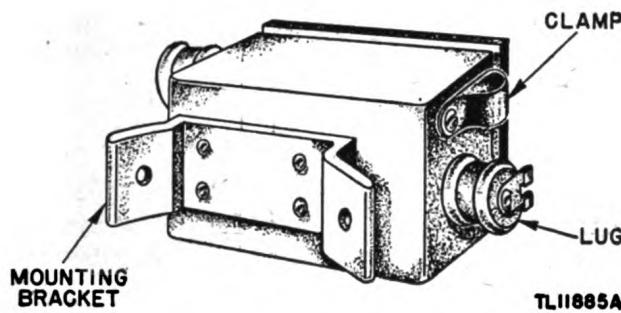

Figure 15. Terminal Box TM-211.
b. TERMINAL BOX TM-211. Terminal Box TM-211 (fig. 15) is 2 inches square and  $1\frac{1}{2}$  inches wide. It contains a matching transformer with leads which connect to two terminal lugs on the outside of the box. It is filled with pitch